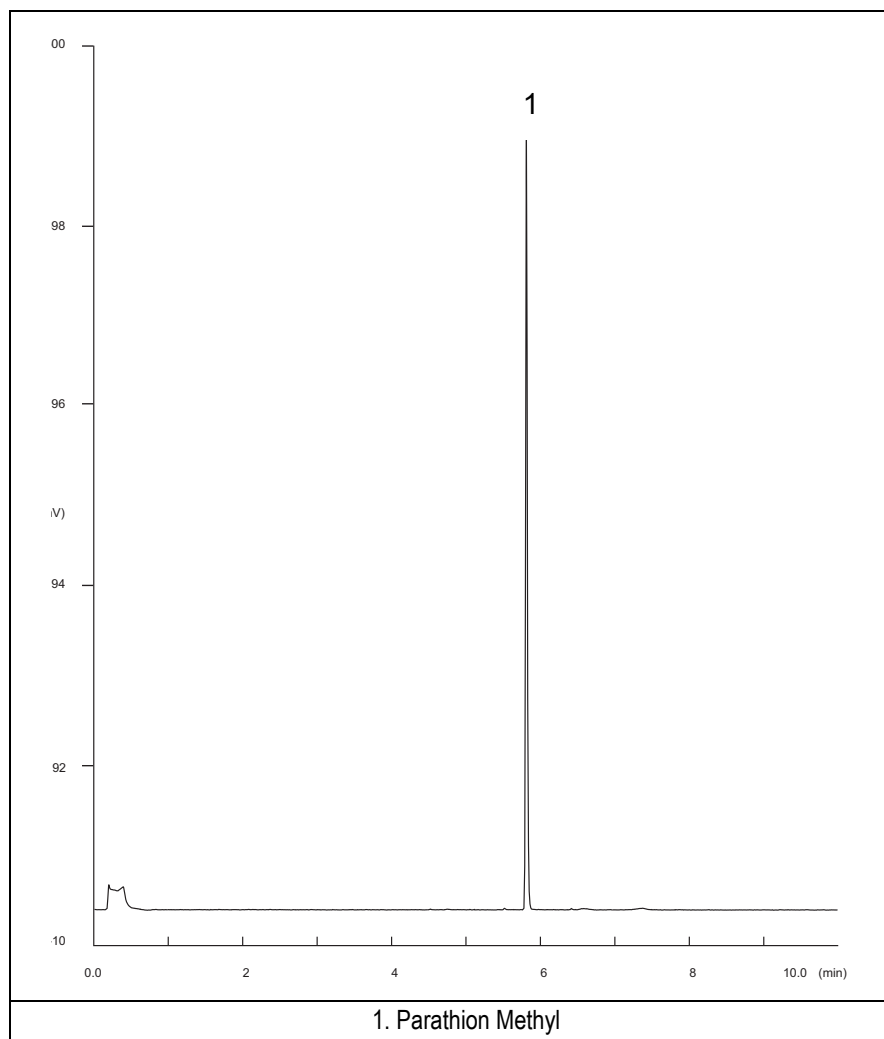

Figure 21-1. FPD-PTV Injection with 526 nm filter
15. When the GC is ready, inject the test mixture and press **START** on the GC to begin the checkout run. The resulting chromatogram should look like the one shown in *Figure 21.1* or *21.2*.